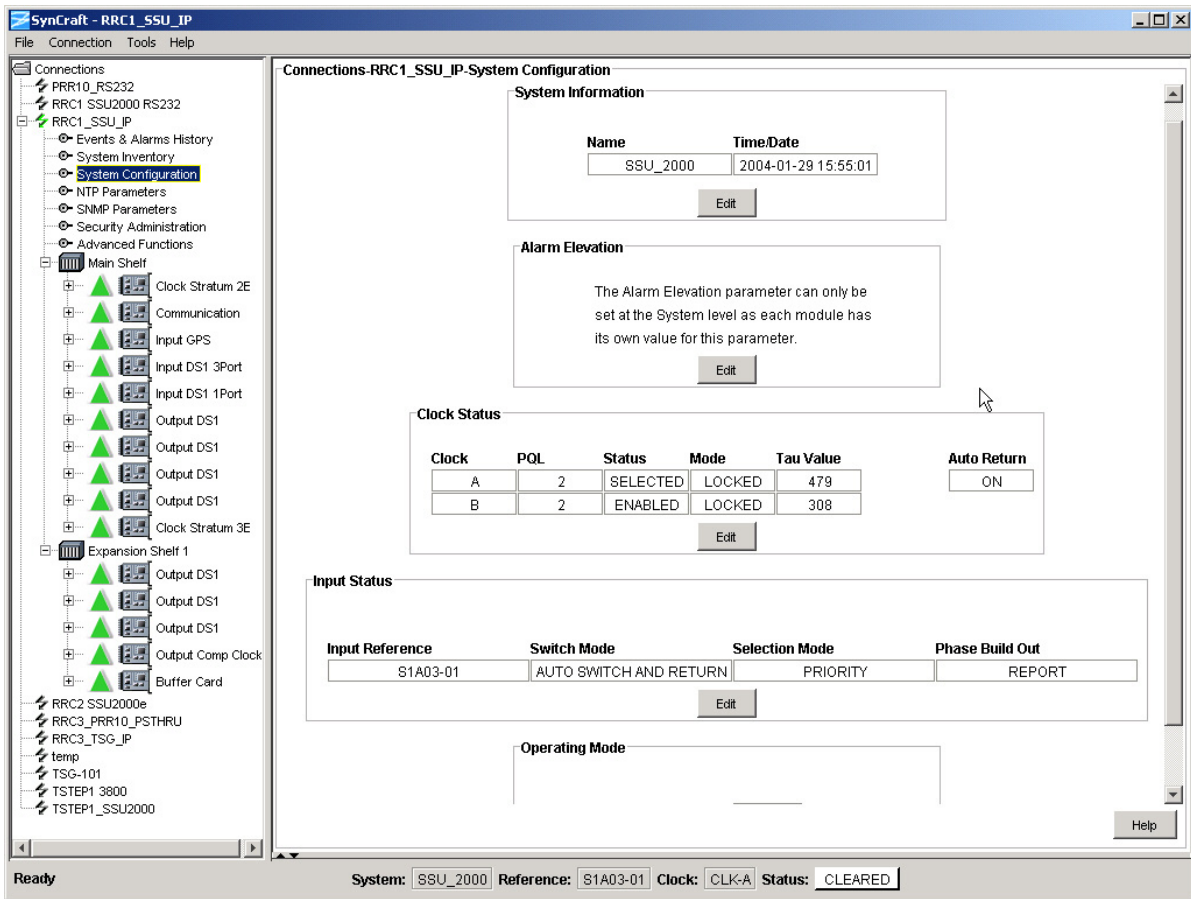

Figure H-10. System Configuration Screen
8. Select the System Configuration screen in the menu. A display similar to that in Figure H-10 appears.